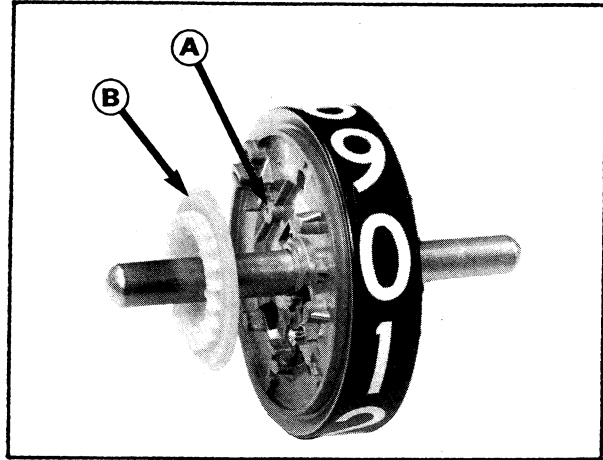

Figure 50.
5. One Wheel in Bank Fails to Reset (Figure 50).